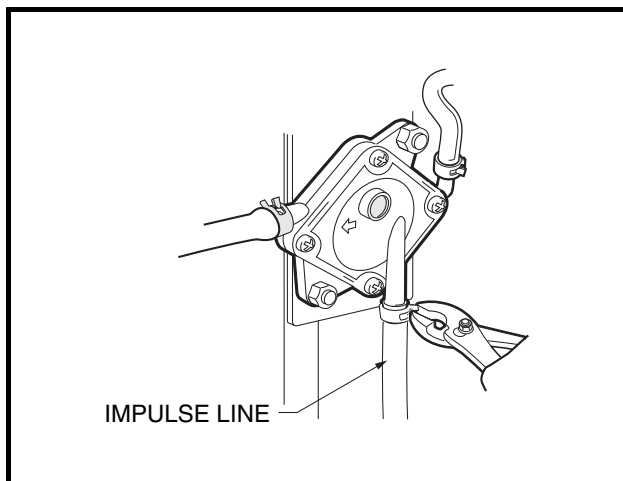

Figure 16-53 Impulse Line
30. Connect the impulse line to the fuel pump and secure it with the hose clamp (**Figure 16-53, Page 16-21**).